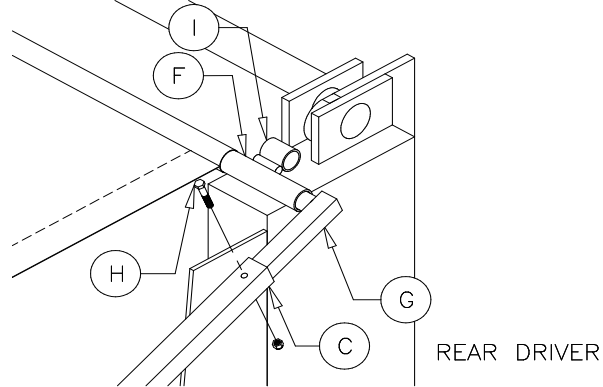

Figure 17
Using a 5/16" drill bit, drill through the bottom and top pivot arm on both sides of the box. Secure the pivot arms with the 5/16"x1-3/4" hex bolt (H) and 5/16" nylon lock nut provided (see Figure 17). Adjust the pivot arms so they are aligned with the sides of the box.